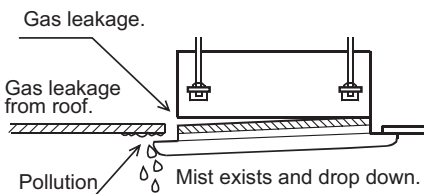

figure 3
2. Take off the filter and press the air inlet grille outer edge with thumb, and pull out the filter corner with forefinger, to lift the filter after leaving the locker, then remove the filter (see figure 3).
If screws are not tighten properly, problems in Fig. 3 might occur.